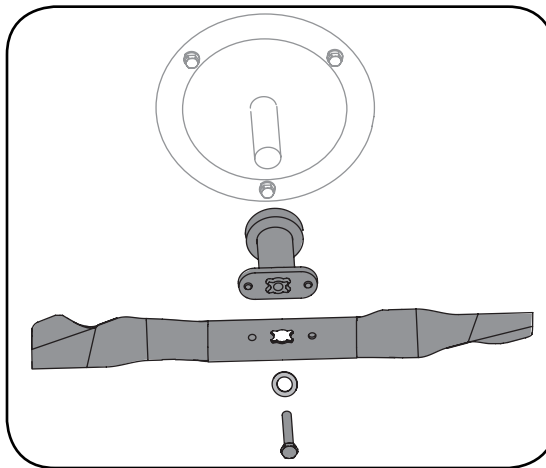

Figure 5-3
2. Remove bolt, bell washer, blade, and blade adapter from the engine crankshaft. See Figure 5-3.